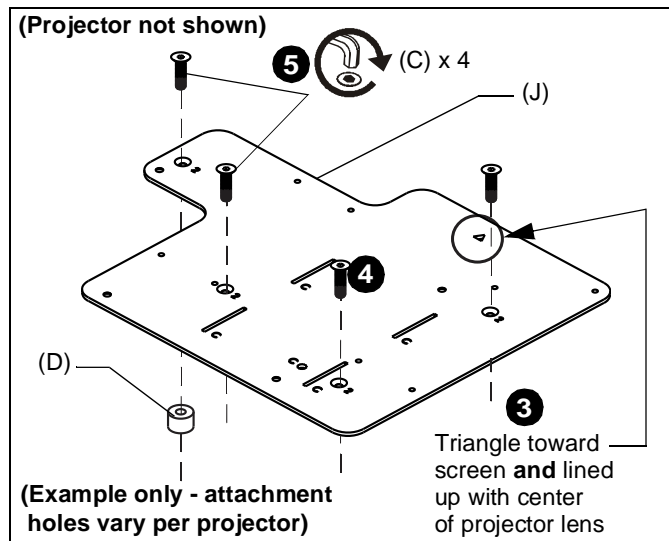

Figure 1
2. Place four spacers (D) over the threaded inserts in the bottom of the projector.
3. Place the interface bracket (J) [with "C" markings visible] onto the bottom of the projector, aligning the mounting holes in the bracket with the spacers and threaded inserts in the bottom of the projector, and ensuring that triangle in bracket points towards screen, and lines up with center of the projector lens. (See Figure 1)
4. Place four M4 x 16mm flat head cap screws (C) into the mounting holes marked as "2", through the spacers (D) and into the threaded inserts.